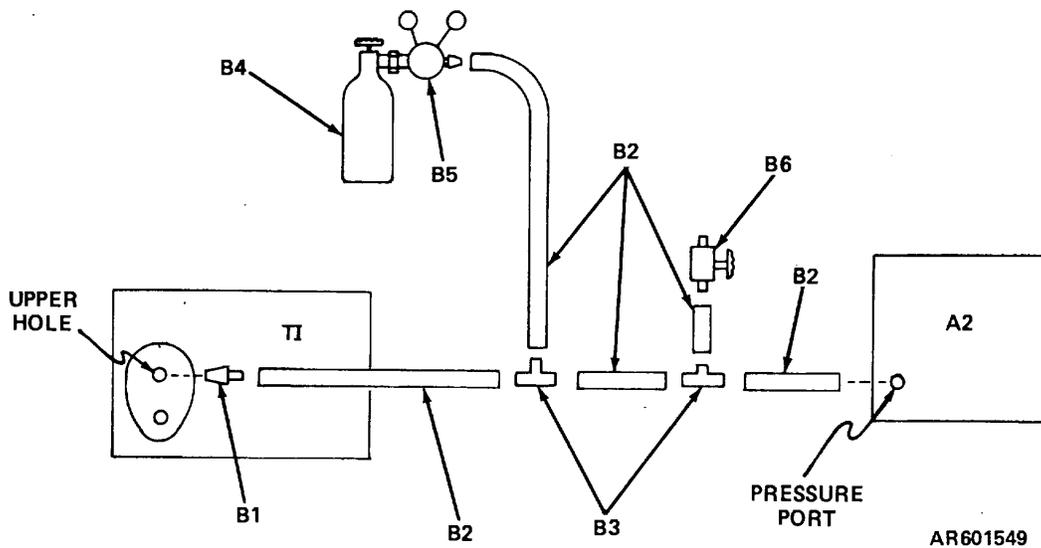

Figure 4. Resistance gage performance check, equipment setup.
- (1) Connect the test equipment as shown in figure 4.
- (2) Close valve (B6).
- (3) Adjust the valve on the nitrogen cylinder (B4) and regulator (B5) until the RESISTANCE gage pointer indicates "2" on the scale. The manometer (A2) must indicate as shown in table 4.
- (4) Repeat (3) above for each major division on the RESISTANCE gage scale.